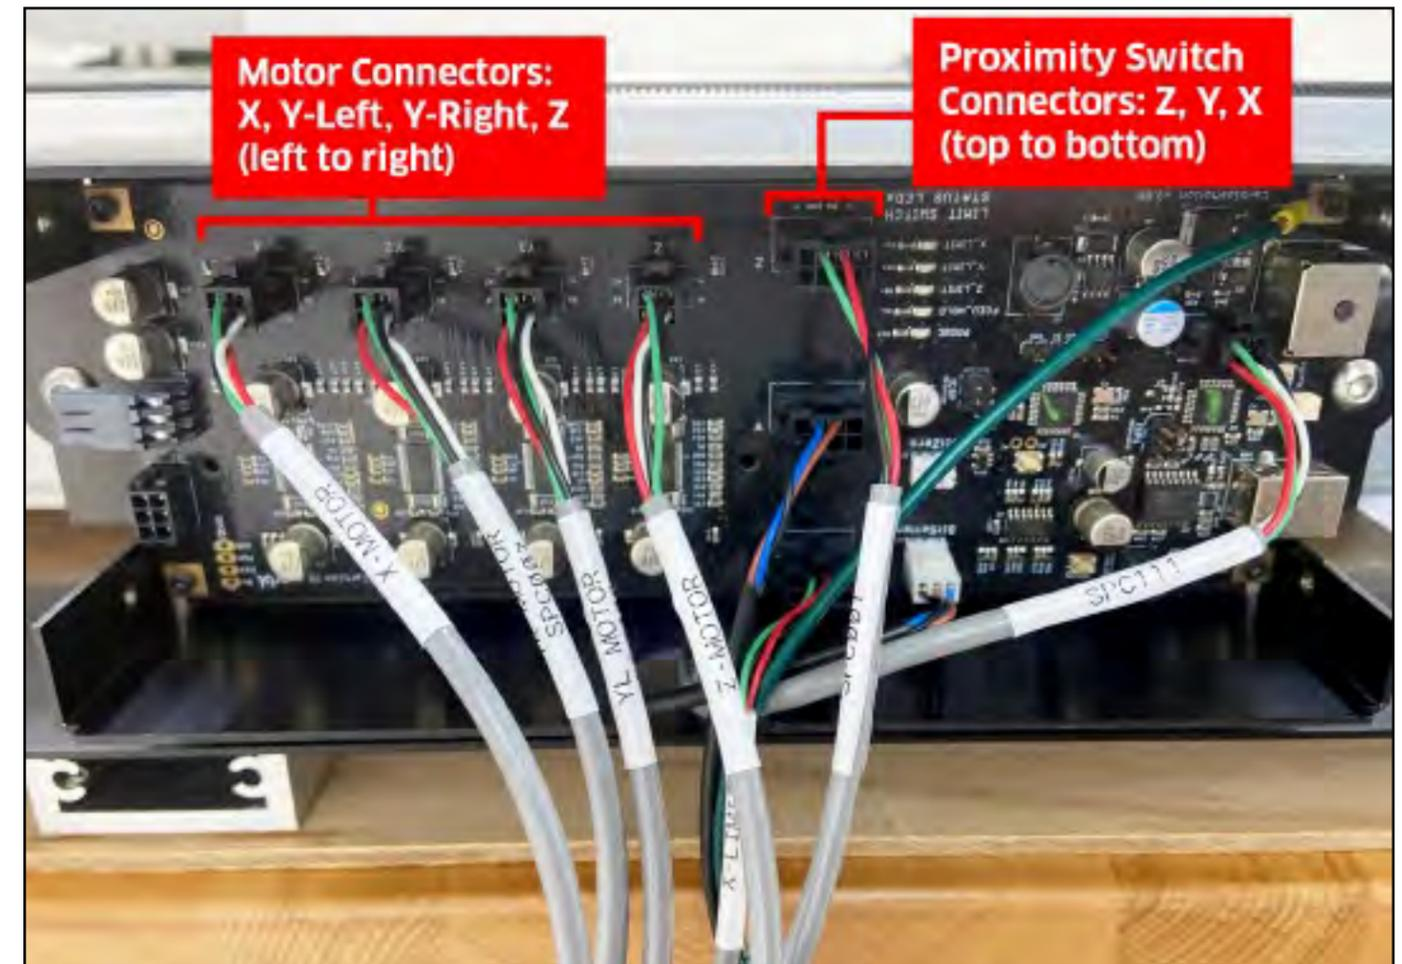

Figure 9-3
4. Plug the three 8-pin male proximity switch cables into the 8-pin female connectors down the center of the controller labeled “Z”, “Y”, “X”. **See Fig. 9-3.**
5. Plug the four 4-pin male stepper motor cables into the 4-pin female connectors at the top-left labeled “X”, “Y2”, “Y1”, “Z”. **See Fig. 9-3.**